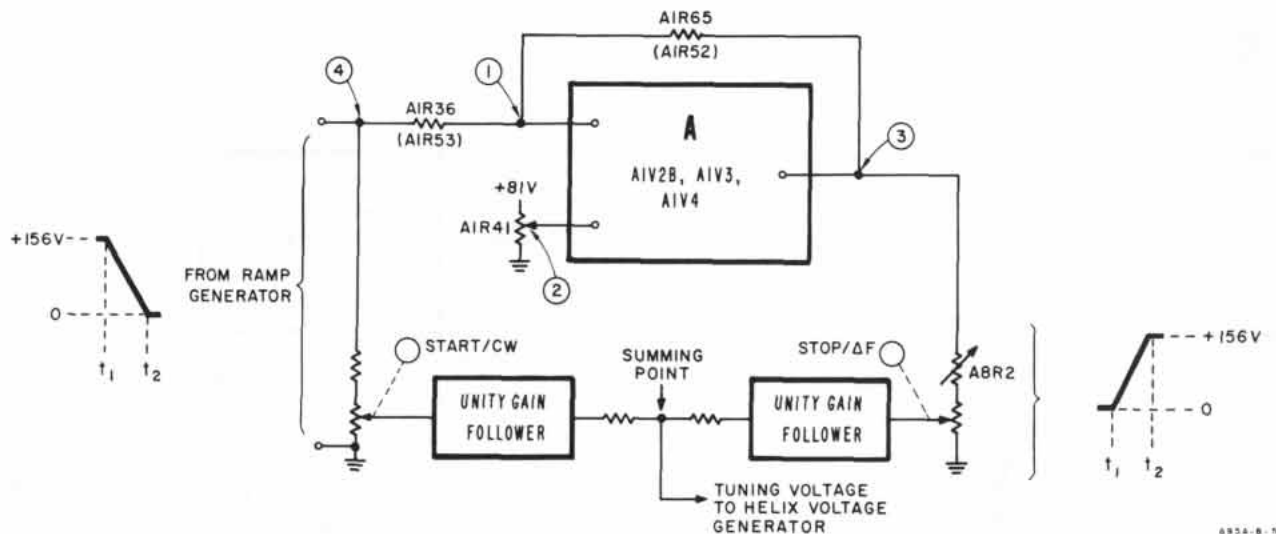

Figure 4-8. Unity Gain Inverter Functional Schematic Diagram
4-41. The Unity Gain Inverter consists of differential amplifier V3, inverter amplifier V4, and cathode follower V2B located on etched circuit board A1 (upper chassis). Unity gain is achieved by using a degenerative feedback circuit around the entire inverter as shown in Figure 4-8. The gain of A1V4 is 70 to 75 db, but the net gain of the circuit is equal to the ratio of feedback resistor A1R65 to input (series) resistor A1R36. For swept and CW RF output signals, equal resistors give unity gain. For external frequency modulation, unequal resistors A1R52 and A1R53 are substituted to obtain amplification.
4-42. The voltage at (2), Figure 4-8, is preset to +78V, half the amplitude of the linear ramp from the Ramp Generator. When operating as a unity gain inverter, the circuit acts to maintain the voltage at (1) equal to the voltage at (2). To achieve this, the circuit produces a positive-going ramp at (3). The instantaneous ramp voltages at (3) and (4) are averaged by resistors A1R36 and A1R65 to produce about